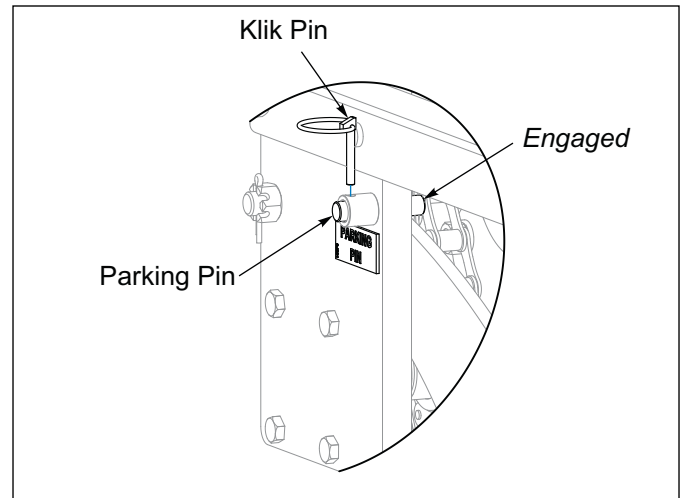

Figure 2-3: Parking Pin Engaged
5. Be sure Parking Pin is locking Rear Roller down and raise the Seeder. **See Figure 2-3.**